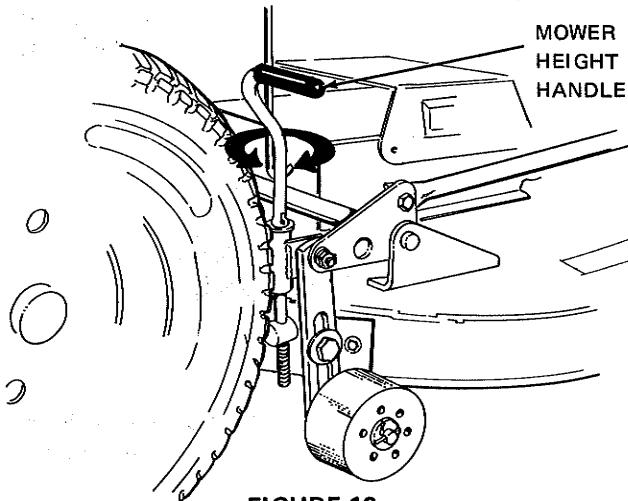

FIGURE 12
2. The height adjusting handle at the rear right side of the mower housing raises and lowers the mower at both front and rear. Twist the handle CLOCKWISE to RAISE the blade and COUNTERCLOCKWISE to LOWER it. (Figure 12)